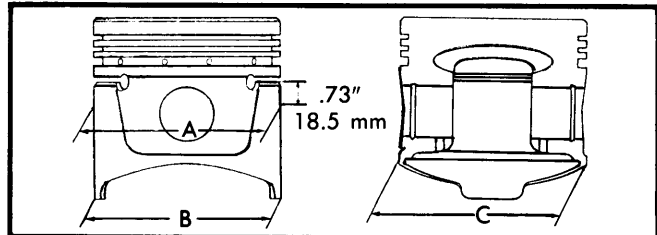

Fig. 9 Points for Measuring Piston
2) Carefully inspect pistons and replace those severely damaged due to scoring, scratching or burning. Measure pistons at points A, B and C as shown in Fig. 9, using a micrometer. If piston is not within specifications, replace piston and rebore cylinder.